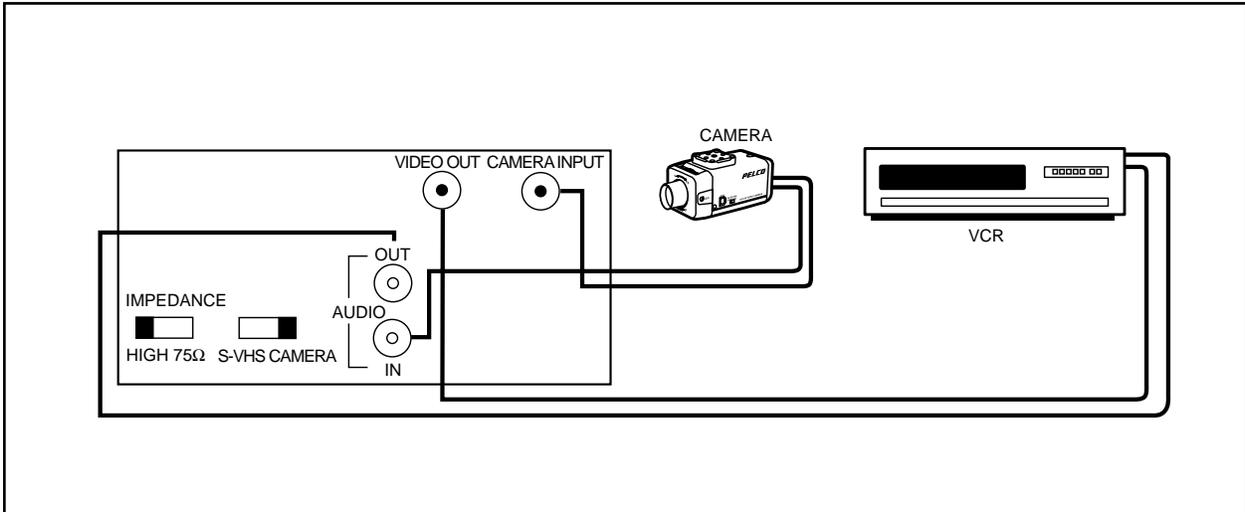

Figure 2. One Monitor with External Video Equipment
1. Connect the equipment as shown in Figures 2 through 4.